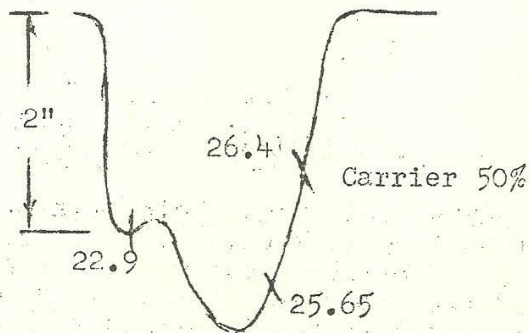

Fig. 4
6. This is the most important step in the alignment. Attach a wire to the grid of the 6AL5 in the mixer stage of the Inputuner (V102). Feed wobbulated signal into grid. L201 and L203 should be adjusted for the response shown in Fig. 4. Use L204 and L206 if necessary to obtain this response. The 22.9 mc marker must be placed slightly inside the low frequency peak as shown in Fig. 4. This is done to minimize ringing. A 26.4 mc marker must be placed 50% down as shown. Both left and right sides of curve should be as straight as possible. The limits allowed for the carrier are 40% to 60% down but as close to 50% as possible.